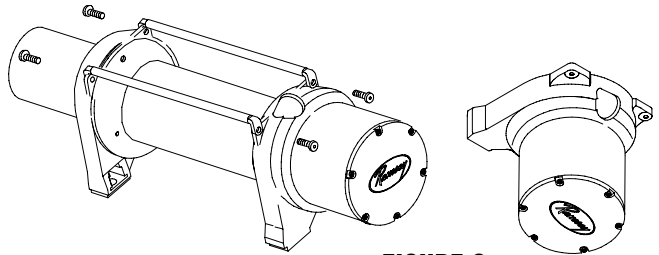

FIGURE 6
1. Position winch as shown in Figure 6. Remove screws from tiebars. You may be able to loosen the screws at the motor end without removing them. Pull the Gear Housing assembly from the drum and shaft and set it down on the work bench with the Gear Housing Cover up. Remove the drum bushing from the Gear Housing assembly or the end of the drum. Set aside.
2. Remove (6) capscrews from the Gear Housing Cover. Holding the Gear Housing assembly, flip it over and set it on the workbench.
Route battery cable up to battery. CAUTION: BE SURE BATTERY CABLES ARE NOT DRAWN TAUT ACROSS ANY SURFACES WHICH COULD POSSIBLY DAMAGE THEM. Connect red cable to positive (+) battery terminal (see Figure 3). Connect black ground cable to negative (-) terminal of battery and to winch mounting bolt on motor end of winch (see Figure 6 on following page).